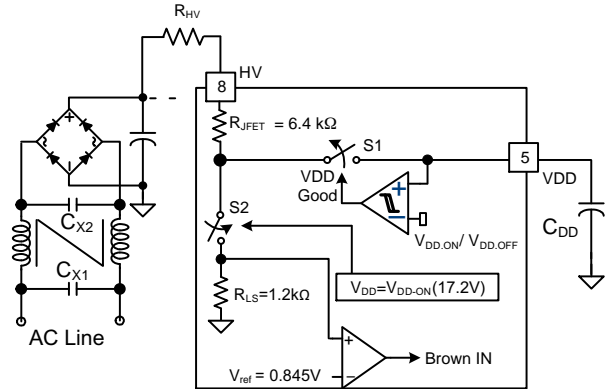
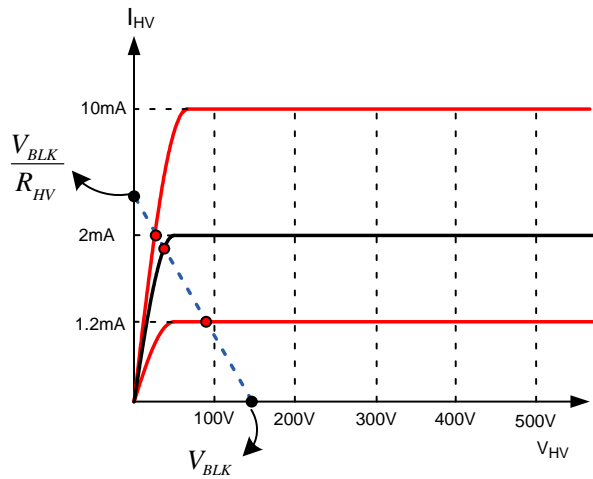

Figure 31. HV Startup Circuit
Figure 32. Characteristics of HV Pin
Figure 31 shows the high-voltage (HV) startup circuit. An Internal JFET provides a high voltage current source, whose characteristics are shown in Figure 32. To improve reliability and surge immunity, it is typical to use a R_{HV} resistor between the HV pin and the bulk capacitor voltage. The actual current flowing into the HV pin at a given bulk capacitor voltage and startup resistor value is determined by the intersection point of characteristics I-V line and the load line as shown in Figure 32.
charge the hold-up capacitor, C_{VDD} , through R_{HV} . When the V_{DD} voltage reaches V_{DD-ON} , the sampling circuit shown in Figure 31 is turned on for t_{HV-det} (100 μ s) to sample the bulk capacitor voltage. Voltage across R_{LS} is compared with reference which generates a signal to start switching. If brown-in condition is not detected within this time, switching does not start. Equation (9) can be used to program the brown-in of the system. If line voltage is lower than the programmed brown-in voltage, FAN604P goes in auto-restart mode.